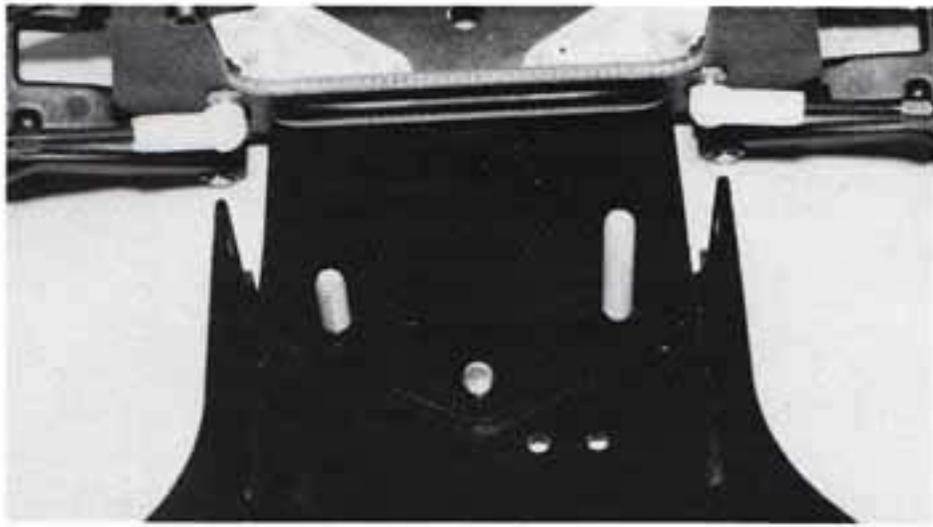

Fig. 25
(1) Looking from the back of the chassis (fig. 24), insert the #6280 screw into the left, the #6931 screw into the middle, and the #6281 screw into the right. (2) Now slide the nose plate over the chassis as shown in fig. 24, aligning the holes with the screws. (3) Now thread them into the nose plate until they are as in fig. 25.